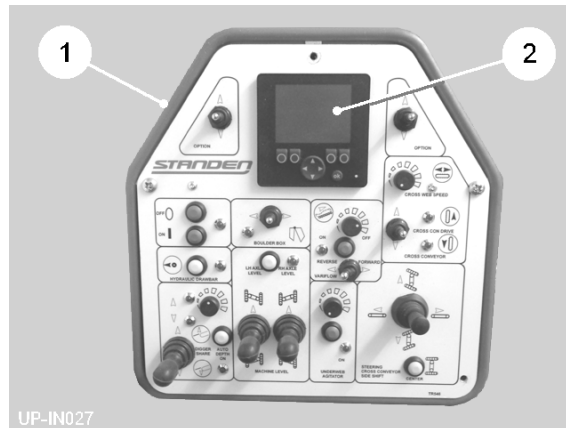

Fig 13
Control for the major functions of the Standen UniPlus are provided electronically by the switches mounted on the in-cab control box (item 1, fig 13) switching the valves on the machine via a CAN-bus control system. The functions can be monitored from the control box display screen (item 2, fig 13). Setting and monitoring can be carried out by following the instructions in the CAN-bus operating instructions.